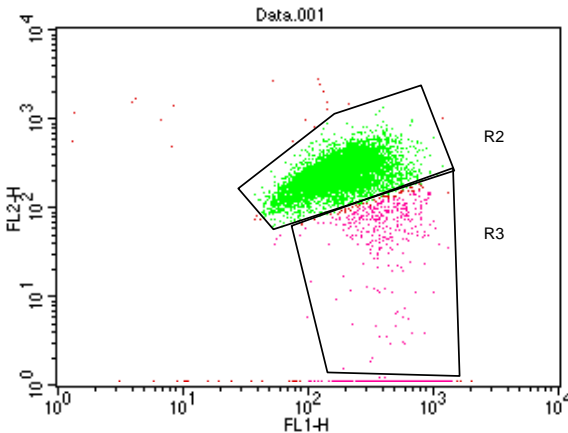

Figure 1: Negative cell control, Log FL1 (X-axis) and log FL2 (Y-axis) R2 = 91.07% R3 = 8.08%.
2. Add two regions, R2 and R3, as shown in Figure 1.
3. Run the negative control sample first (non-induced cells). Adjust the FL1 and FL2 PMT voltages so that the majority of the cell population falls within the upper right hand region. The peak of the dual fluorescent population should fall within the second and third log decade scale of FL1 (X-axis) and FL2 (Y-axis) as seen in Figure 1.
5. Next, adjust R3 so that it falls directly below R2, as in Figure 1.
In Figures 1 and 2, cells were analyzed in a FACS Caliber Becton Dickinson Flow Cytometer. Jurkat cells were either treated with DMSO (negative, non-induced cells) or with staurosporine (apoptotic, induced cells) for 3 hours at